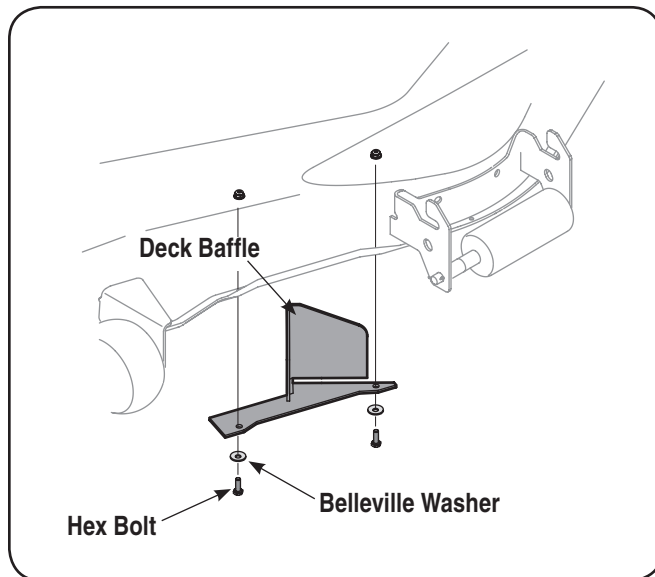

Figure 4-17
2. Install the deck baffle (703-05783) included with the loose parts to the underside of the mowing deck using two 710-3015 hex bolts, 736-0270 Belleville washers and 712-04064 flange lock nuts from hardware pack 689-00094, as shown in Fig. 4-17.